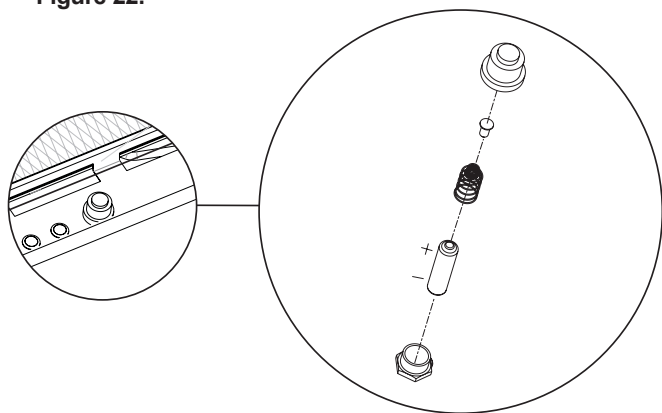

Figure 22
4. Unscrew the ignitor button and install the AA battery provided in the instruction envelope prior to closing the control door. **See Figure 22.**